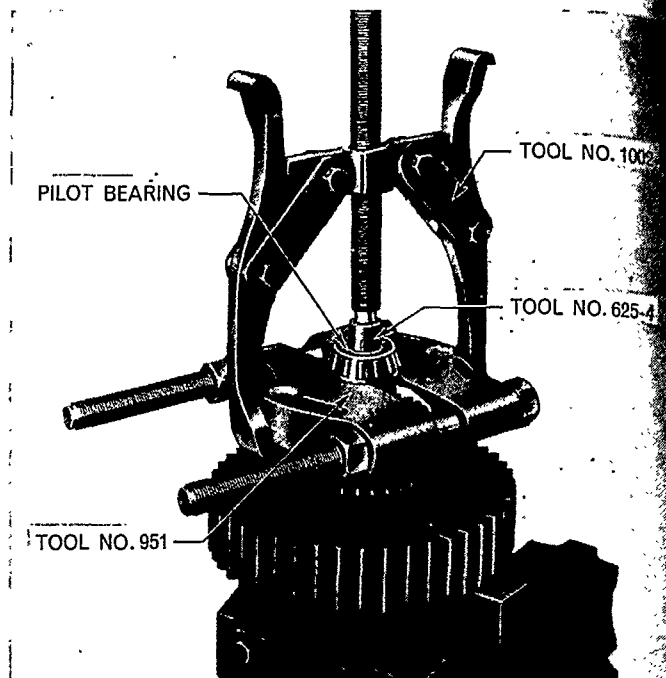

Figure 37
2. If necessary remove the pilot bearing cone and roller assembly using Tools Nos. 1002, 951 and 625-4, Figure 37.